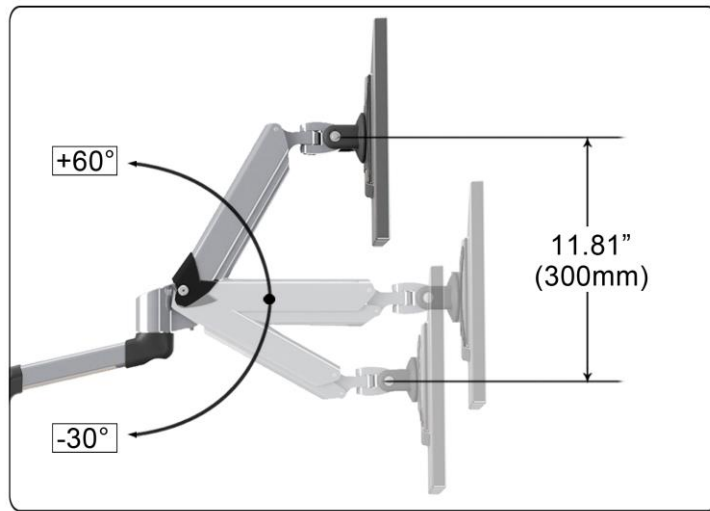
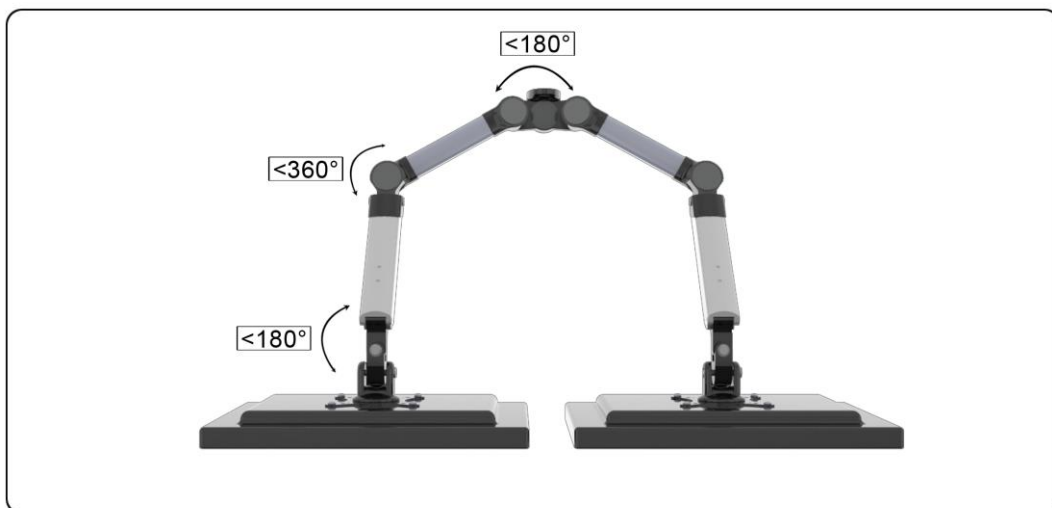

Figure 5-4
Figure 5-5
4. The gas spring arm can lift up 60° and down 30° (**See Figure 5-4**). At the wall plate, the mount has a swivel range of 180°, 360° at the pivot point and 180° at the monitor interface (**See Figure 5-5**).